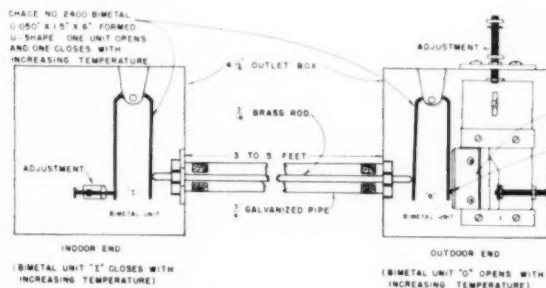

Fig. 1 Mechanically operated differential thermostat having bimetallic temperature-sensing elements
Floor heat losses were estimated by measuring the temperature gradient between the 1/2-in conduits buried in the floor as shown in Fig. 1. Temperature differences were measured by copper-constantan thermopiles with junctions spaced 2 ft apart in the two pairs of conduits under the stalls; the junctions were spaced 12 ft apart in the other three pairs of conduits where temperatures were more uniform. The coefficient of conductance for the concrete was assumed to be 12.5 Btu per sq ft per hr per inch in thickness per degree Fahrenheit.
Two mechanically operated differential thermostats were developed prior to the electronic unit. One of them used 3 in round thermostatic wafers as the temperature-sensing elements. These wafers did not have the desired uniform expansion characteristics through the temperature range that was needed. The second thermostat (5), Fig. 1, has bimetallic temperature sensing elements which respond uniformly to temperature changes throughout the required range of 32 to 100 F. The bimetal differential thermostat has been in service on one of the University of Nebraska farms for eight years. Both mechanical units are limited to installations where the indoor and outdoor temperature-sensing elements can be less than 5 ft apart.